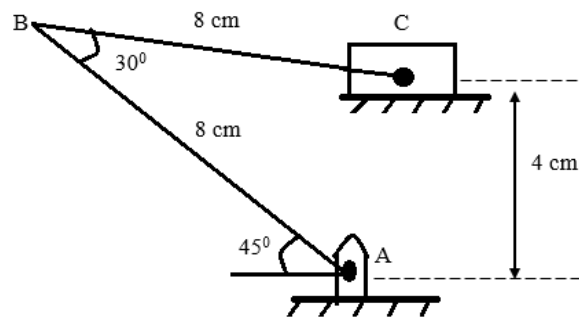

Figure 3(a)
- a) The Figure 3(a) shows that the crank AB rotates anti-clockwise at an angular velocity of 150 rad/s.
Represent Figure 3(a) using space diagram
- b) By referring to Figure 3(a), sketch its velocity diagram and calculate the angular velocity of link BC